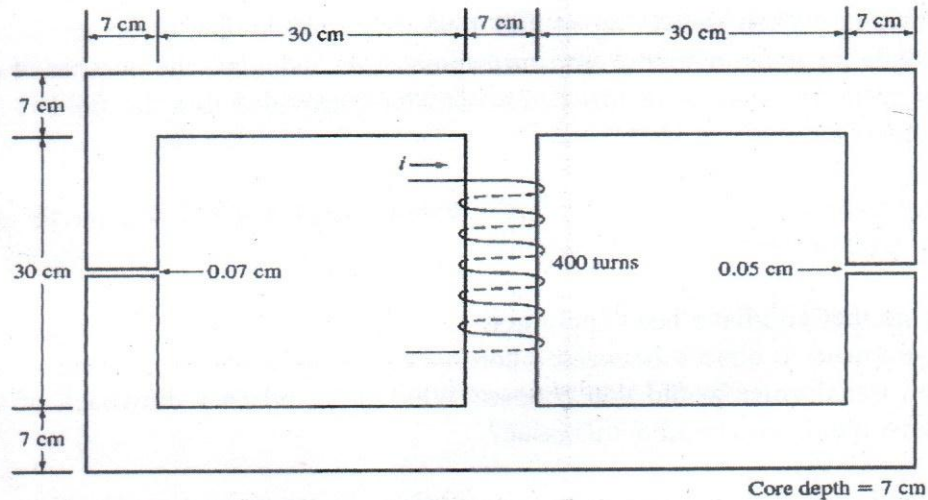

Fig. 1(a)
1. a) A ferromagnetic core with a relative permeability of 1500 is depicted in Fig. 1(a) in which the values of all the dimensions have been incorporated. Because of the fringing effect, the effective area of each of the air gaps is 5% larger than their physical size. If $i = 1$ A, what are the flux values for left, center and right legs of the core? What is the flux density in each air gap? 20